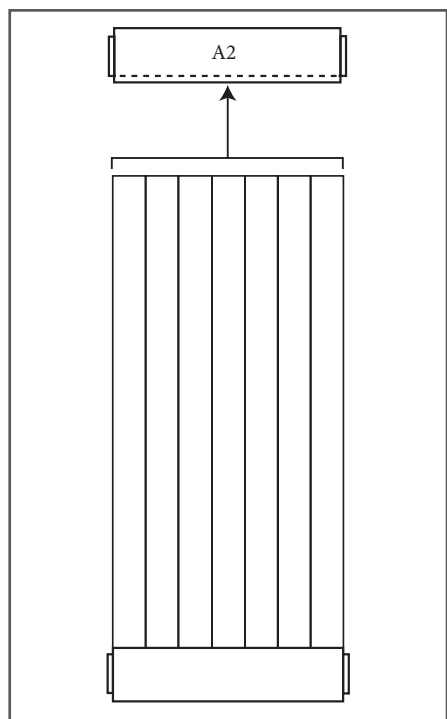

Figure 3
3. Place the Top Rail (A2) above the assembled slats. Slide downward to cover the upper edge of the slat assembly. Tap the Top Rail into place with a rubber mallet (Figure 3).